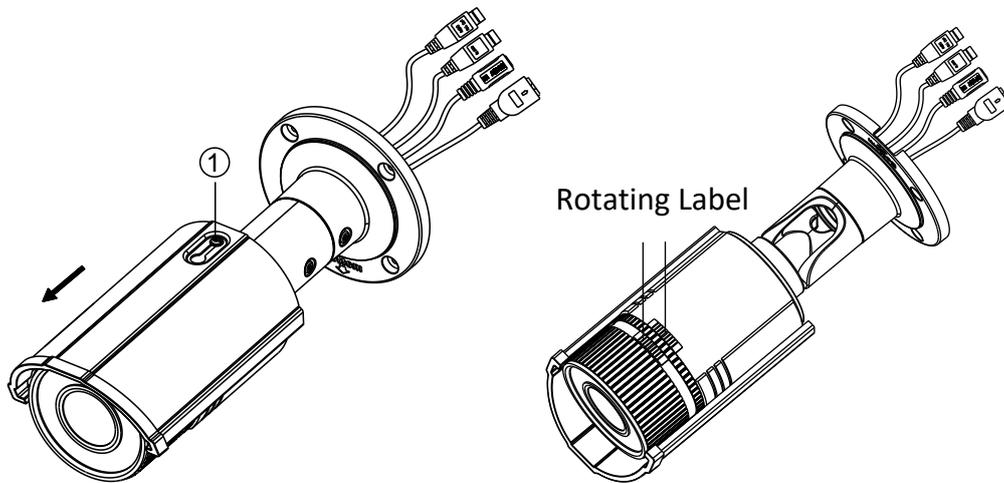

Figure 7-7 Assemble the Camera
- 6). Slide the sun shield according to the arrow direction as shown in Figure 7-7(left).
**NOTE:** For water-proofing, please align the rotating label on the front cover with that on the camera when you rotate the front cover clockwise. Refer to Figure 7-7 , above (right).